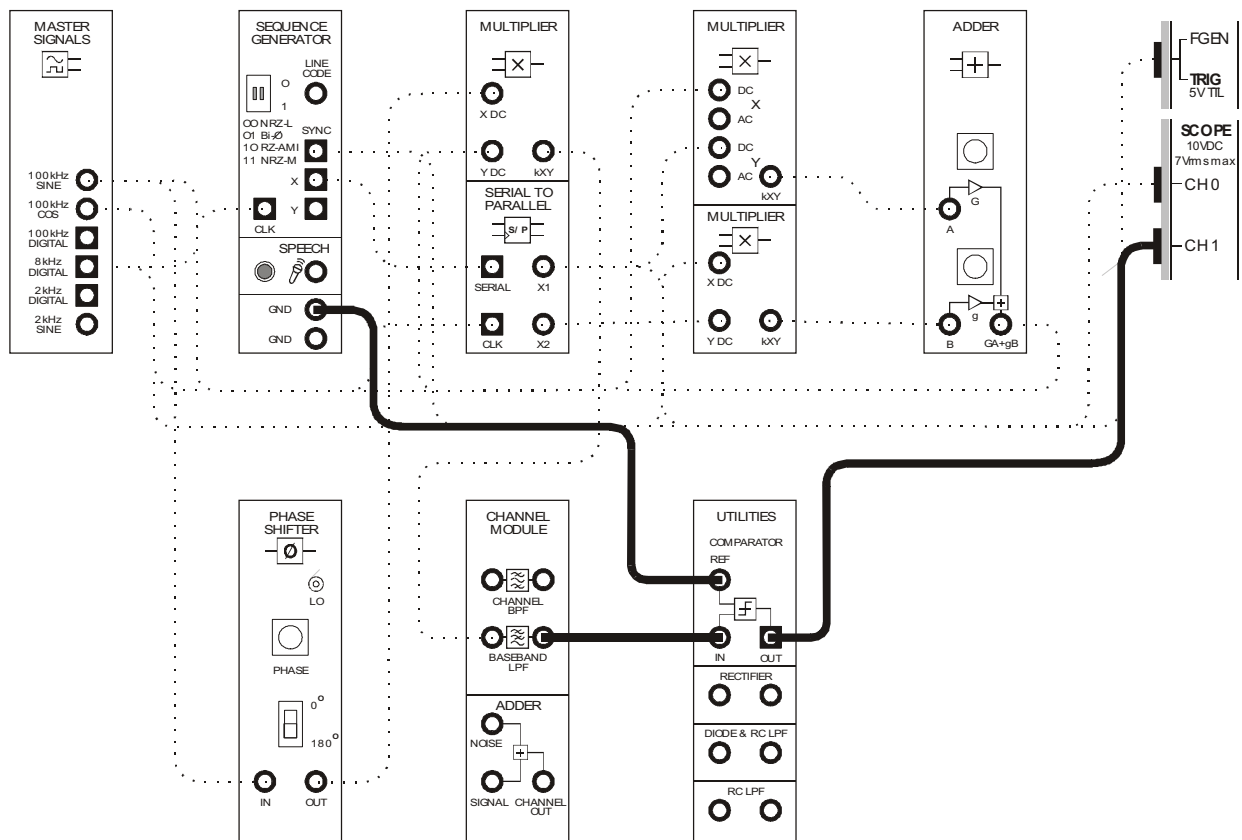

Figure 13
49. Modify the set-up as shown in Figure 13 below.